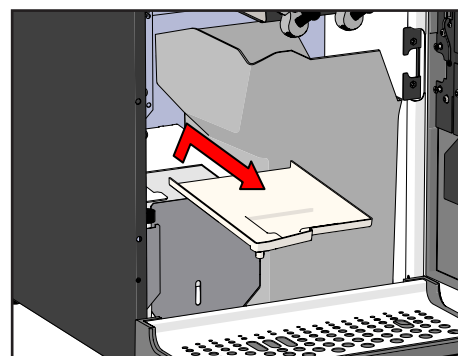

Figure 42. Remove brewer drip tray
7. Remove the brewer drip tray (see Figure 42).